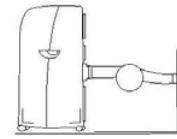

FIG.7
- If the exhaust pipe has to be bended it should be proceeded as shown on : Fig. 7